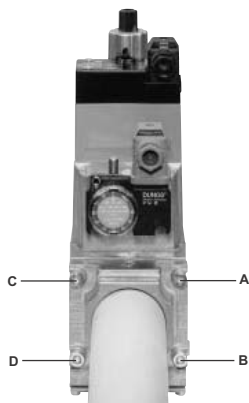
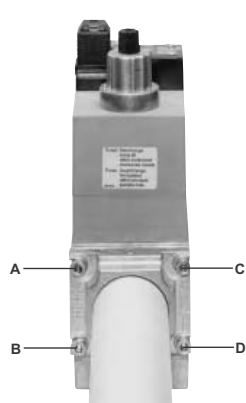

Fig. 8
Fig. 9
1. Loosen screws A and B **do not** unscrew (Fig. 8 - Fig. 9).
2. unscrew screws C and D (Fig. 8 - Fig. 9).
3. Remove MultiBloc between the threaded flanges (Fig. 9).